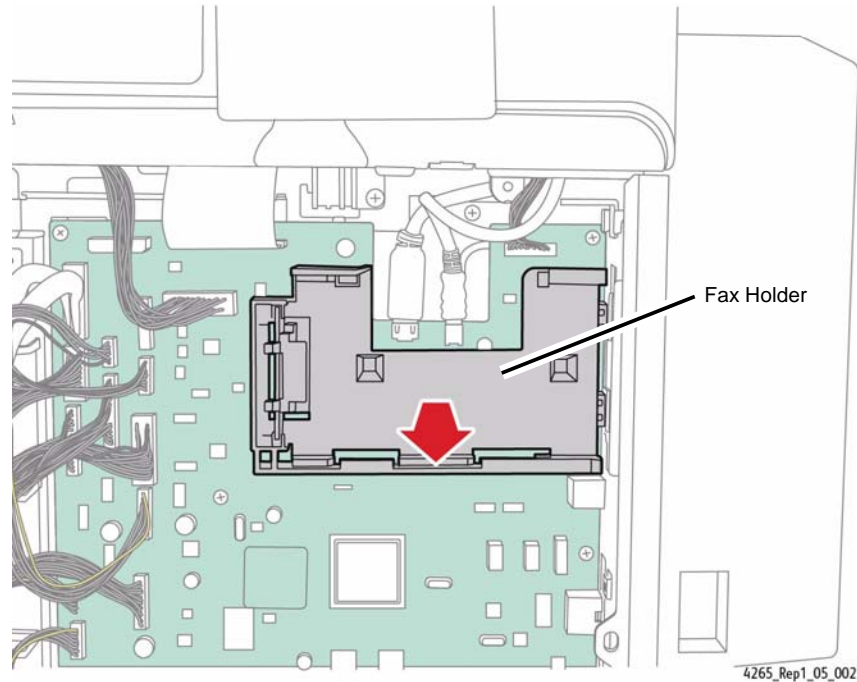

Figure 2 Removing the Fax Holder (4265)
7. If installed, remove the Fax Holder by gently pulling it off its mounts on the Main PWB (Figure 2):